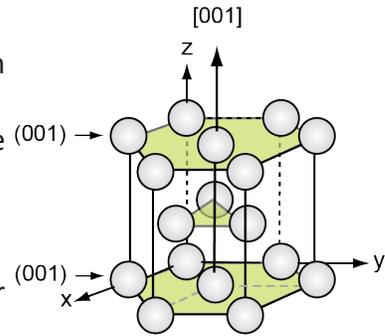

Figure C46. Solution for E33
E33. (a) The cleavage plane is shaded on Figure C46.
(c) The (001) planes and the [001] direction are shown on Figure C46.